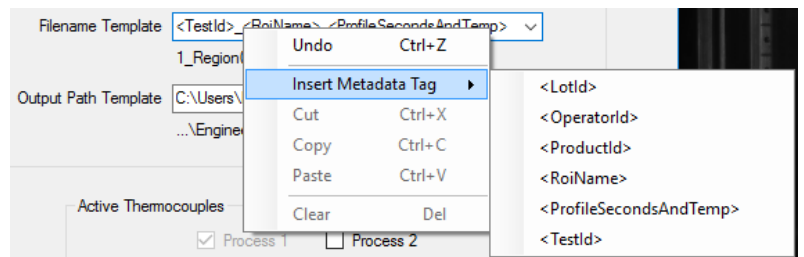

Figure 2.20 Filename Template Metadata Tags
- **Filename Template** – Allows the user to create a standard name for files created by the profile. This usually consists of a list of metadata tags associated with the run, plus the ROI name and temperature for a given reading. See **Appendix A.1.1** for available Metadata fields. The specific tags used and their order can be changed by the user. As **Figure 2.20** shows, this box has a list of standard metadata tags in its context menu that the user can select from instead of typing them in manually. The arrow at the end of the box allows the user to select from a few default tag options: